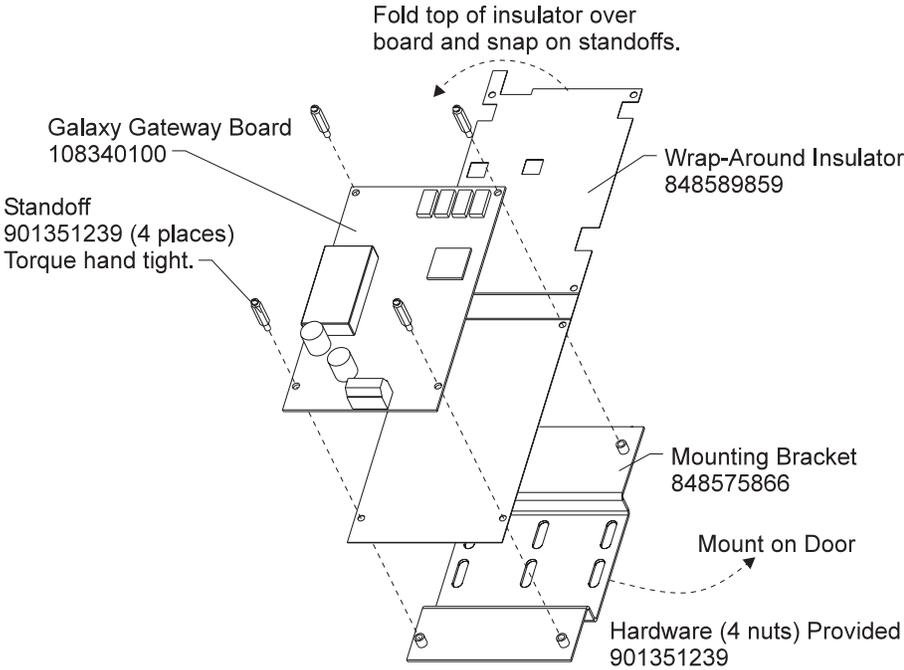
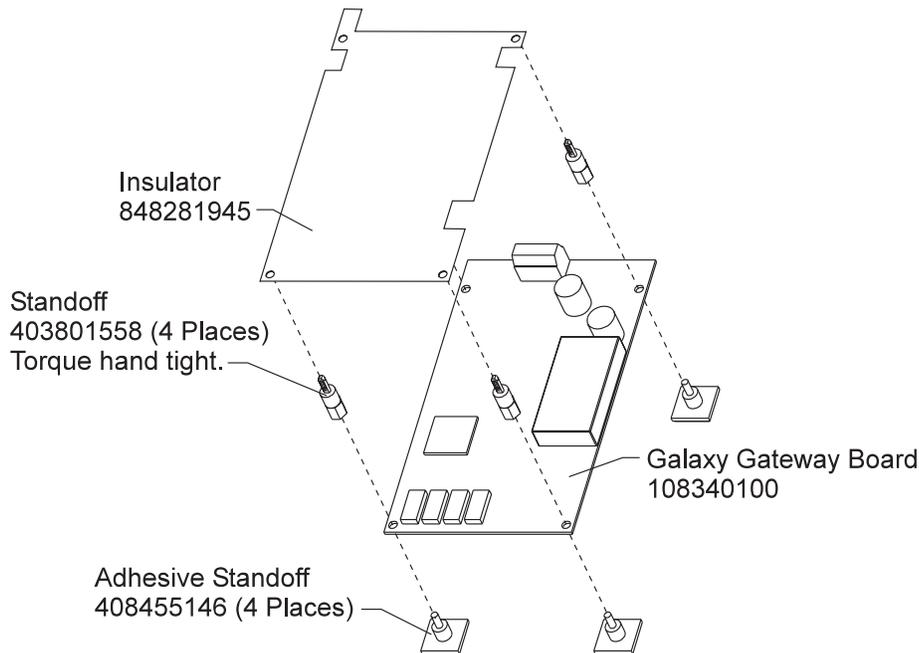

Figure 6-1: Galaxy Gateway installation for metal door
Figure 6-2: Galaxy Gateway installation for any door
Before you begin installing and configuring the Galaxy Gateway, make sure that the following components are present. Note that not all parts are used in a given installation. GPS systems may have either metal or plastic doors, and Gateway installation kits contain the hardware for both types. See Figures 6-1 and 6-2.
1. Refer to Figures 6-1 and 6-2. Figure 6-1 shows the hardware used for installation in plants with metal doors, which have pre-drilled holes to accommodate the bracket. Figure 6-2 shows the hardware used for installation on any style door.
The Galaxy Gateway receives power and communications from the controller. To connect the Galaxy Gateway to the Vector controller, follow this procedure (see Figure 6-2):
1. Connect one end of the network interface cable to J1 (RJ-45 Network Interface Connector), usually located at the bottom right on the Galaxy Gateway. (Other configurations are possible with the hardware shown in Figure 6-2.)
3. Press reset (SW1 – uP reset; see Figure 6-2) on the Galaxy Gateway card.